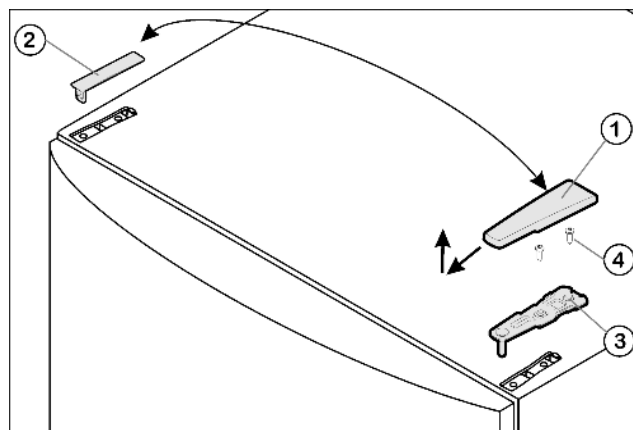

Fig. 4
- ▶ Pull off the cover Fig. 4 (1) forwards and upwards.
- ▶ Lift off the cover Fig. 4 (2)
- ▶ Unscrew the upper turn hinge Fig. 4 (3) (2 Torx 25) Fig. 4 (4) and raise it for removal.
- ▶ Insert the upper turn hinge Fig. 4 (3) in the door on the new hinge side.
- ▶ Screw the top turn hinge firmly into place (**with 4 Nm**). (2x Torx 25) Fig. 4 (4). Possibly make preliminary holes with a Bradawl or use a cordless screwdriver.
- ▶ Apply the cover Fig. 4 (1) and cover Fig. 4 (2) to the opposite side from the outside and snap them into place.